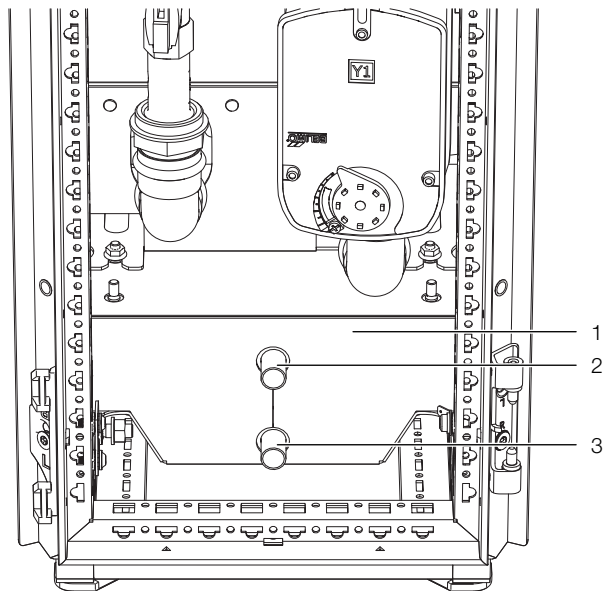

Fig. 60: Condensate discharge
- Insert the adaptor from the scope of supply onto the lower condensate drain (fig. 60).